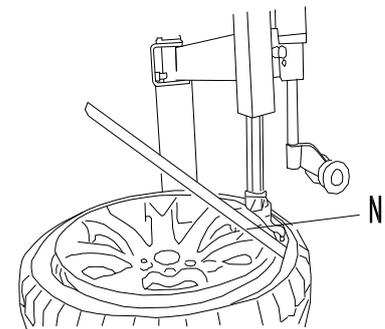

Fig 8
3. Nearby demounting/mounting head, insert lift lever N into tyre, use lift lever to lift bead upon knob of demounting / mounting head. Manually rotate roller C to inner side, pull handle D down, make roller C to press rim, keep 3-5mm gap between demounting/mounting head and rim, make sure demounting/mounting head not damage rim, rotate turntable, demount tyre upper bead (Fig 8).